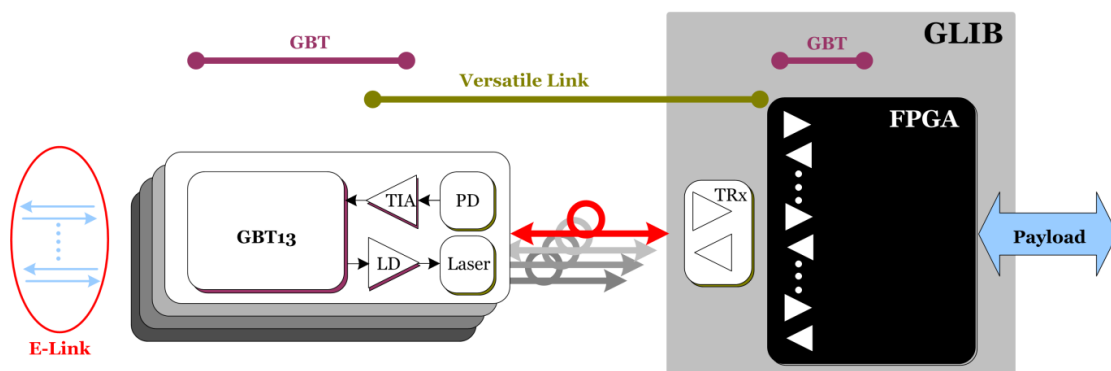

Figure 1-1: The GLIB board in a GBT-Versatile Link system
We have designed and built a platform for the evaluation of optical links in the laboratory as well as for triggering and/or data acquisition systems in beam- or irradiation tests of detector modules. The Gigabit Link Interface Board (GLIB) [1] is based on an FPGA with Multi-Gigabit Transceivers (MGT) operating at rates of up to 6.5 Gb/s. This performance matches comfortably the specifications of the Gigabit Transceiver (GBT) [2] and Versatile Link projects [3] with its targeted data rate of 4.8 Gb/s. Figure 1-1 highlights the baseline configuration of a GBT - Versatile Link - GLIB system. On the left side, front-end (FE) ASICs are electrically connected to the GBT ASIC through e-links [4] while the GBT high-speed serial data-streams are converted to/from the optical domain through the Versatile Transceiver (VTRx) [5]. At the other end, the GLIB converts data to/from the optical domain, implements the GBT protocol and codes/decodes the user payload at the link back-end.